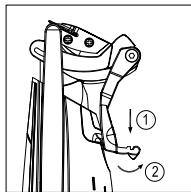

Fig. 3
3. To release the length guide, pull down and move away from the latch (Fig. 3).